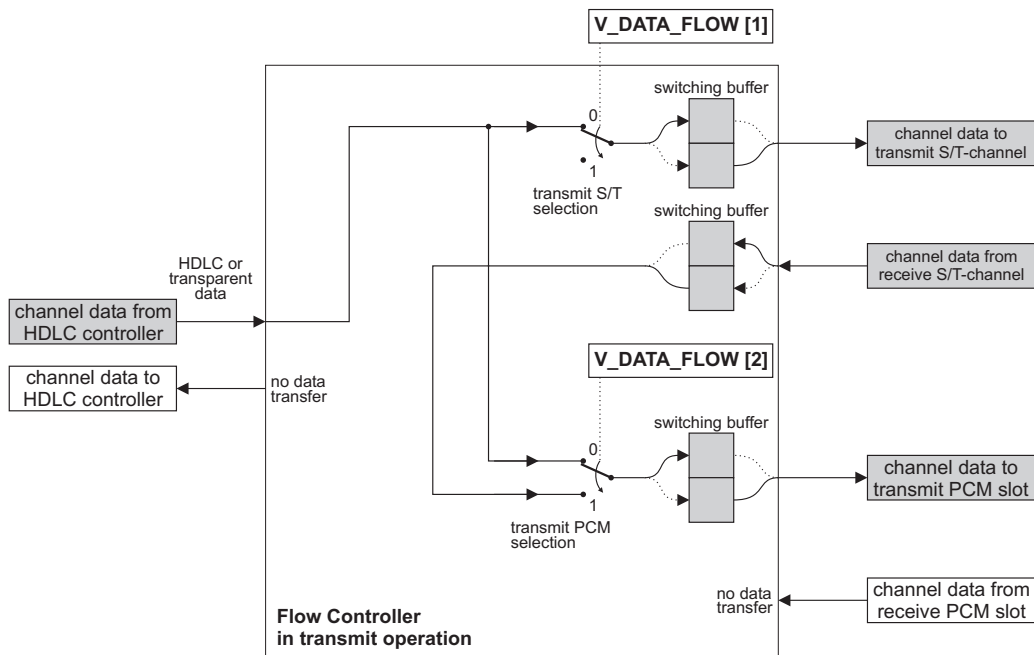

Figure 3.3: *The flow controller in transmit operation*
In transmit operation one HDLC or transparent byte is read and can be transmitted to the S/T and the PCM interface as shown in Figure 3.3. Furthermore, data can be transmitted from the S/T interface to the PCM interface. From the flow controller point of view, the switches select the source for outgoing data. The switches are controlled by the bitmap `V_DATA_FLOW[2..0]` of the register `A_CON_HDLC[n, TX]` where `n` is a FIFO number.
- The PCM interface can transmit a data byte which comes either from the FIFO or from the S/T interface. Bit `V_DATA_FLOW[2]` selects the source for the PCM transmit slot (see Figure 3.3). The receiving S/T-channel has always the same number as the transmitting S/T-channel.